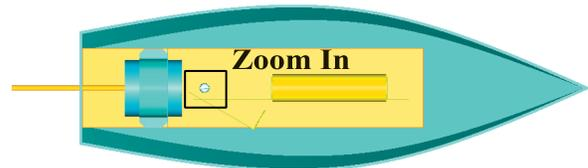

Fig. 63
Step 2. Zoom-in on the screw head. Use **F1** and make a selection window around the screw head, **Fig. 63**.